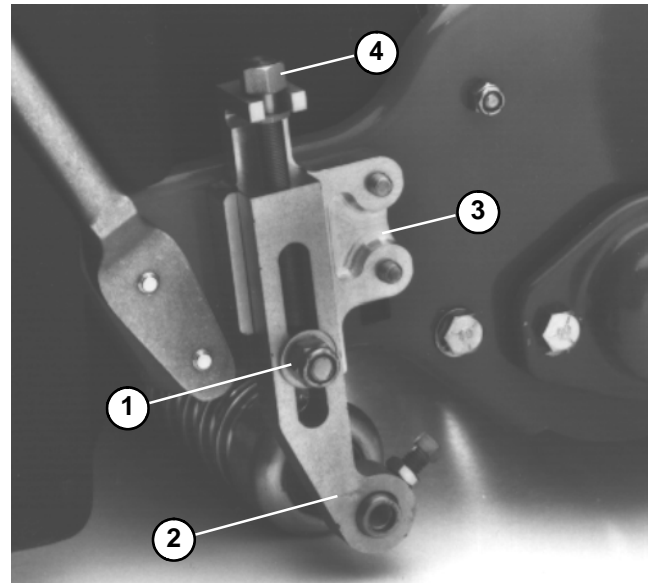

Figure 15
3. Loosen locknuts securing height-of-cut arms to the height-of-cut brackets (Fig. 15).
6. Rotate height-of-cut screw until the roller contacts the front of the gauge bar. Adjust both ends of the roller until the entire roller is parallel to the bedknife (Fig. 15).
7. Tighten both lock nuts to lock the height adjustment (Fig. 15).